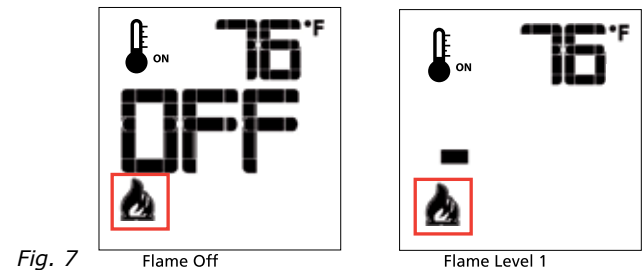

Fig. 7
The Proflame has six (6) flame levels. With the system on, and the flame level at the maximum in the appliance, pressing the Down Arrow Key once will reduce the flame height by one step until the flame is turned off. The Up Arrow Key will increase the flame height each time it is pressed. If the Up Arrow Key is pressed while the system is on but the flame is off, the flame will come on in the high position. (Fig. 7 & 8) A single "beep" will confirm reception of the command.